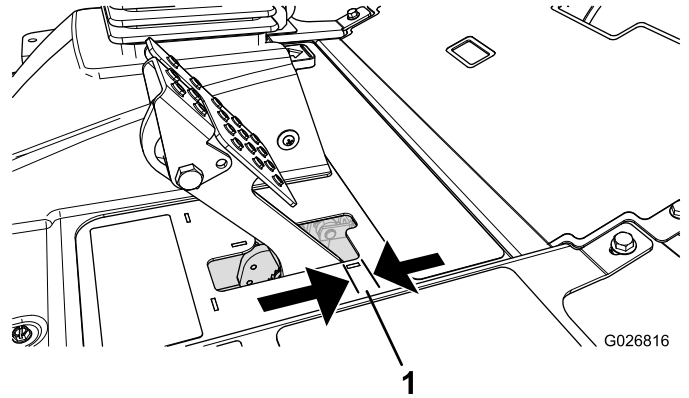

Figure 64
Adjust the brakes when there is more than 2.5 cm (1 inch) of free travel (Figure 64) of the brake pedal, or when more holding force is required. Free travel is the distance the brake pedal moves before you feel braking resistance.
2. Tighten the rear nut to move the cable backward until brake pedals have 6 to 13 mm (1/4 to 1/2 inch) of free travel (Figure 64), before wheel lock-up is achieved.